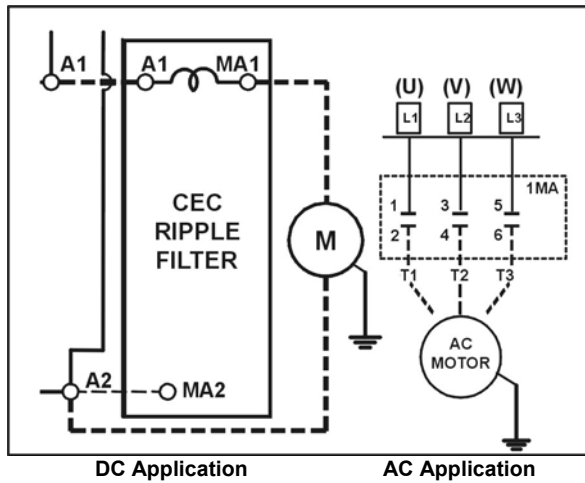

Figure 1-7
- The first is to the motor that consists of current conductors wired from the drive output through the choke (if required) to the motor and a ground wire to the grounding lug at the drive side of the controller. [See Figure 1-7.]